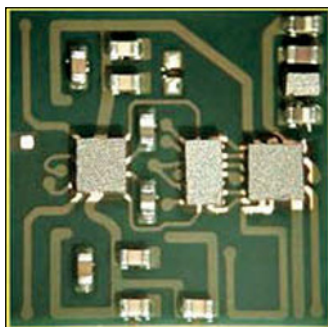

Figure 3-1: The CuFlip advantage over wire bonding.
Qorvo's CuFlip interconnect technique is a proprietary, advanced flip-chip technology that uses copper “bumps” to replace wire bonds (see Figure 3-1). CuFlip (pronounced “copper flip”) offers several advantages over other methods of connecting radio frequency (RF) components to printed circuit boards in mobile devices: